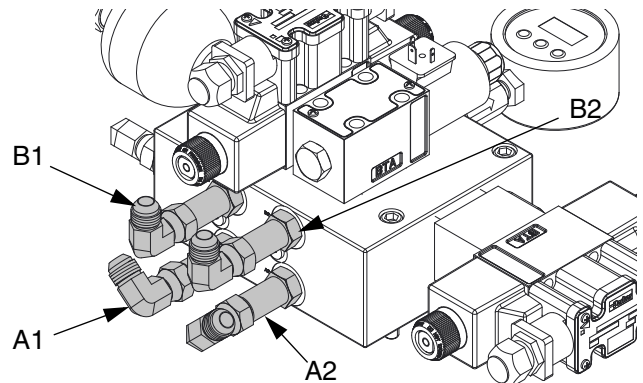

FIG. 21: L-Head Applicator Hydraulic Housing
7. Connect all hydraulic lines to applicator housing. See FIG. 21 on page 27.